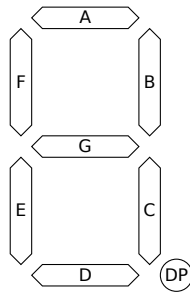

Figure 1: Labelling of a 7-segment digit including a decimal point (DP)
Let's start with a quick example to get most users up and running. We will assume a 4-digit 7-segment common anode display. The segments in each digit are labelled A to G in the standard way as depicted in Fig. 1. Some displays also have an 8th segment for the decimal point (DP). This example assumes a display without that segment (see Sec. 3.3 for how to use **SevenSeg** with decimal points).
Defines the segments A-G (c.f. Fig. 1) to be connected to the Arduino I/O pins given by the variables with the same name. See Sec. 2 for example.
Specifies that the digits have a decimal point (DP) as depicted in Fig. 1, and that its segment is connected to `DPPin`. See Fig. 10 for an example of a display with a decimal point.